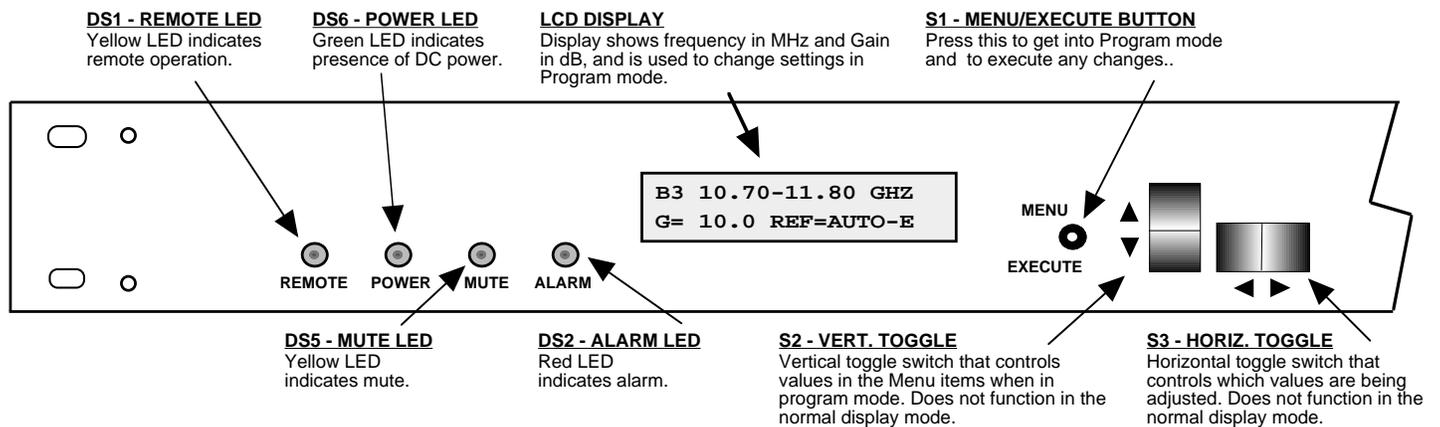

FIGURE 2.2 3115-41-128# Front Panel Controls and Indicators
Figure 2.2 shows the front panel controls and indicators.
5. Be sure DS2 (green, DC Power) is on and DS6 (red, Alarm) is off (Figure 2.2).
Alarm indications appear on the LEDs (See Figure 2.2).